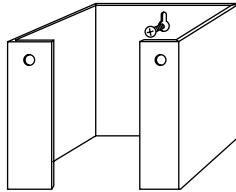

Figure 2-3. Wall Mounting the 38/6865
2. Using a fastener appropriate to the wall construction, insert and secure the fastener (Figure 2-3). Let the head protrude slightly.